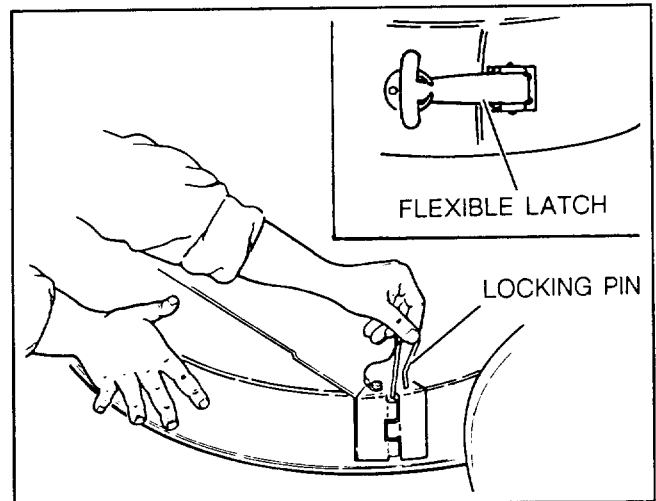

Figure 5
4. Slide chute assembly under deflector and into locking position with mating part of hinge lock. Insert locking pin (Fig. 5).
5. Hook flexible latch into notched bracket at rear of deck opening (Fig. 5).